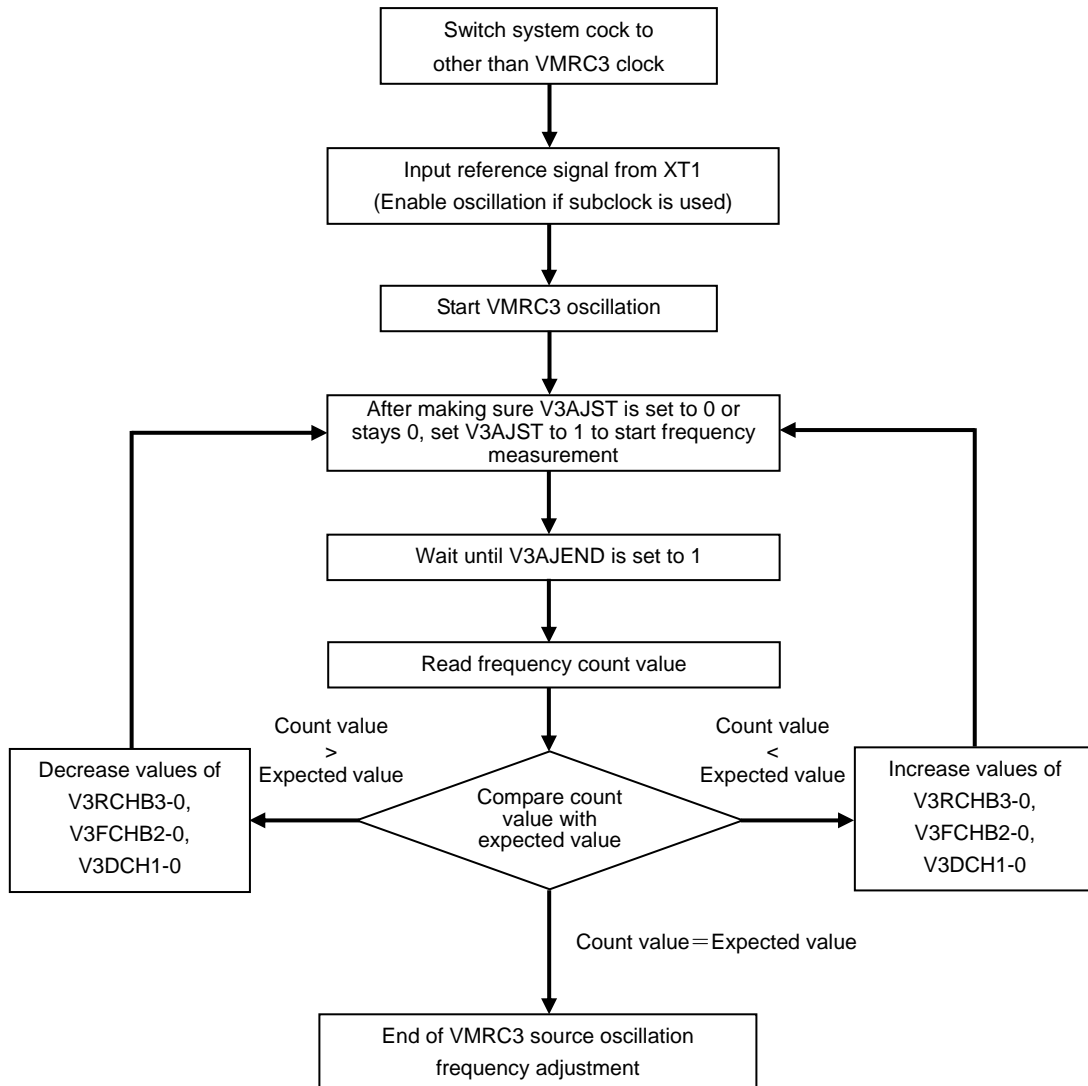

Figure 4.3.4 VMRC3 Source Oscillation Frequency Correction Flowchart
- Since the adjustment margins of V3RCHB3 to V3RCHB0, V3FCHB2 to V3FCHB0, and V3DCH1 to V3DCH0 vary depending on the supply voltage and ambient temperature, repeat steps 2) and 3) until the optimum correction value is obtained (see Figure 4.3.4, “VMRC3 Source Oscillation Frequency Correction Flowchart”).